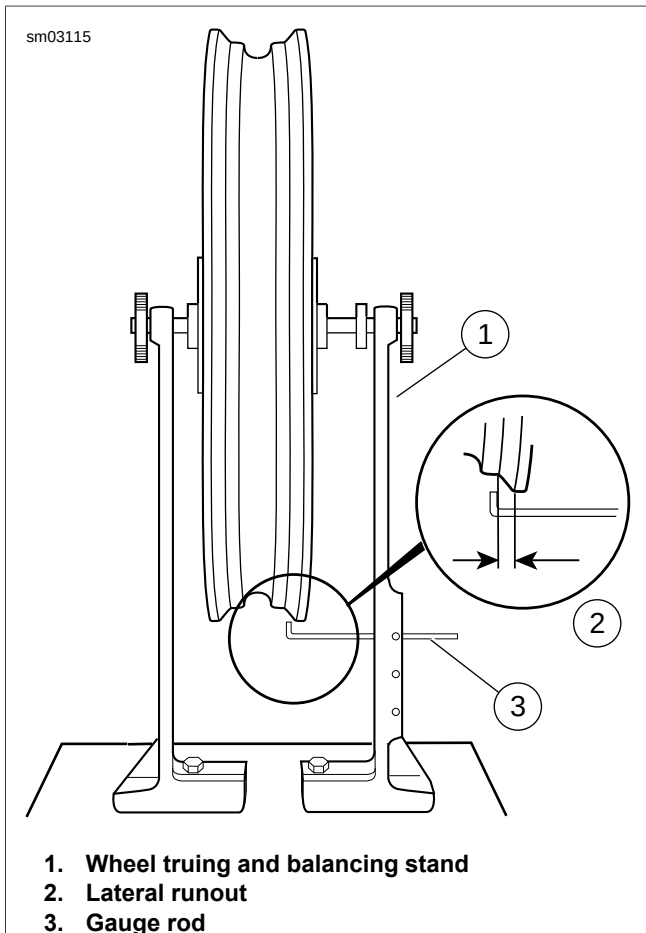

Figure 2-17. Checking Lateral Runout
1. See Figure 2-17. Mount wheel in WHEEL TRUING AND BALANCING STAND (Part No. HD-99500-80).